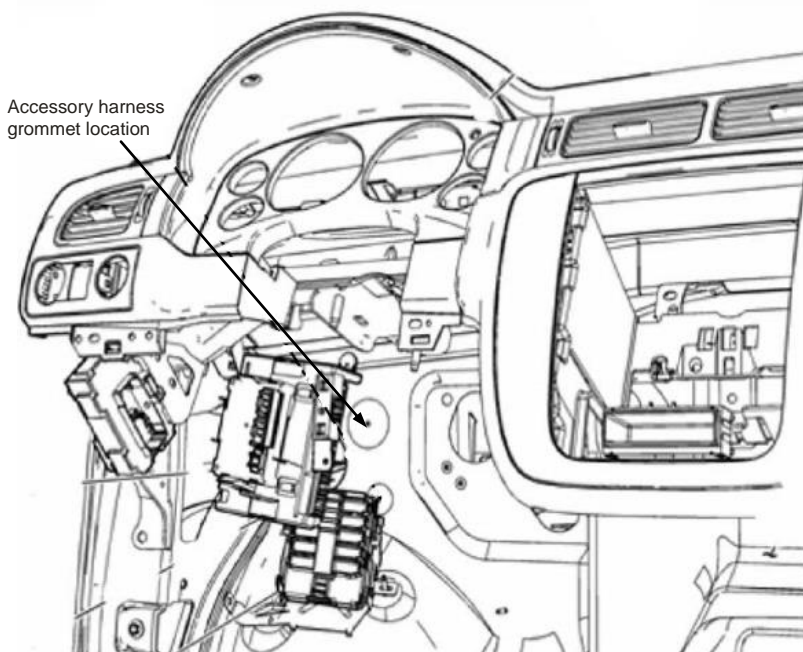

Figure 3. 2
- ☐ Route the following wires through the accessory harness grommet under the dash shown in Figure 3. 2.